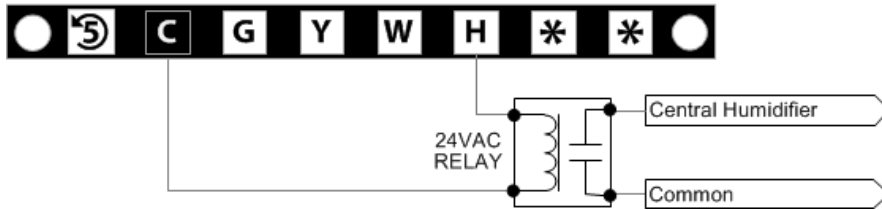

Figure 18 – Connecting to a dry contact controlled humidifier with the use of a relay.
- **Dry contact-controlled equipment.** In cases where a device must be controlled through dry contacts – as is often the case with humidifiers – a relay (not supplied) must be added, to be activated by the 24 VAC signal sent by the corresponding terminal and whose “normally open” and “common” contacts will connect to the dry contact terminal of the device in question (Figure 18).